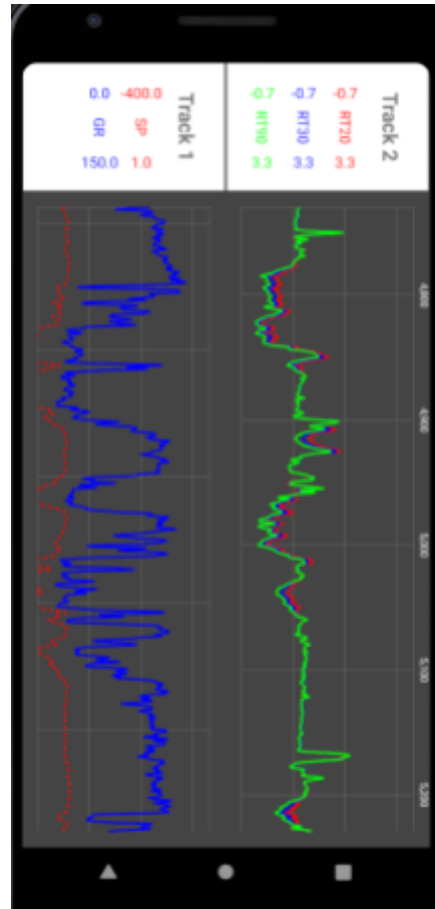

Figure 10
25. You should now see the two tracks displaying the curve data you selected and set up as shown in **Figure 10**. You can scroll up and down the wellbore to view additional data by swiping up and down. When finished you can navigate back to the LAS import screen by pressing the back button in the lower left corner of the screen.